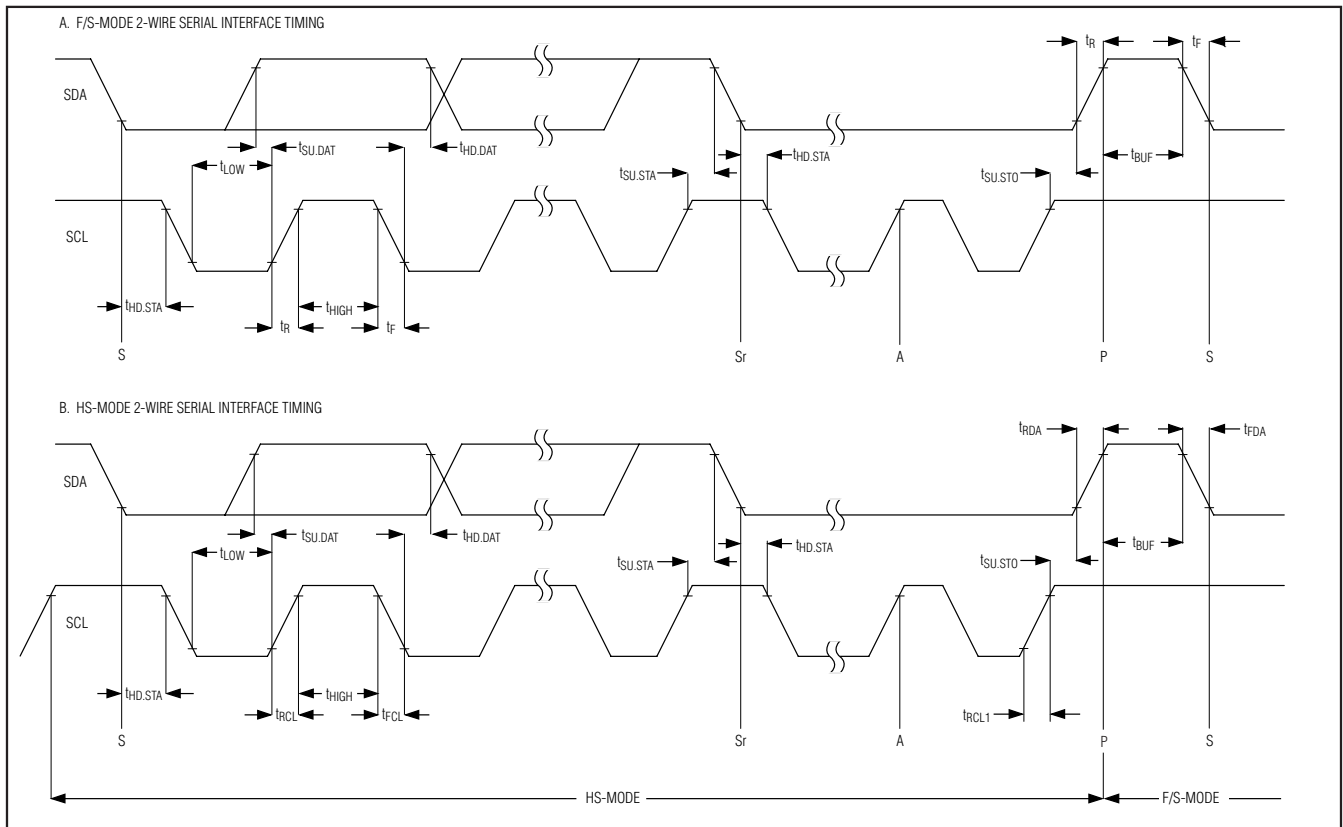

Figure 1. 2-Wire Serial Interface Timing
### TIMING CHARACTERISTICS (Figure 1)
## TIMING CHARACTERISTICS (Figure 1) (continued)
**Note 10:** A master device must provide a data hold time for SDA (referred to VIL of SCL) in order to bridge the undefined region of SCL's falling edge (see Figure 1).